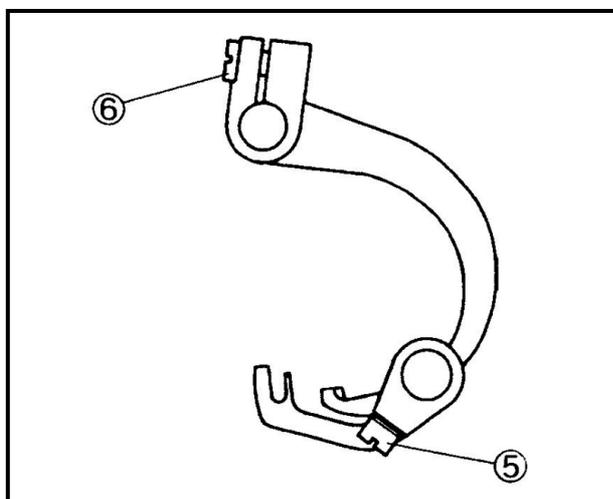

Fig.51
放鬆螺絲⑥去調整。(Fig.51)
Loosen the screw⑥ to adjust them. (Fig.51)